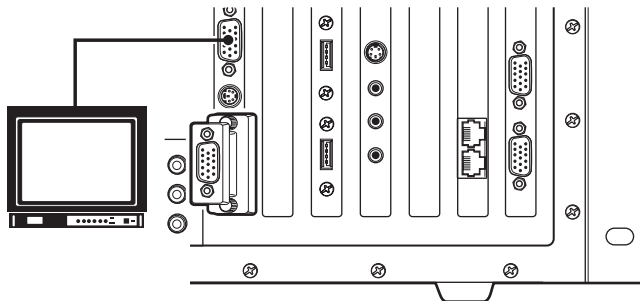

Figure 4. How to Connect a Single Monitor to a VMX300(-E) Workstation
- **Single-monitor systems:** If you are using just one monitor, use the top monitor input only (refer to Figure 4).